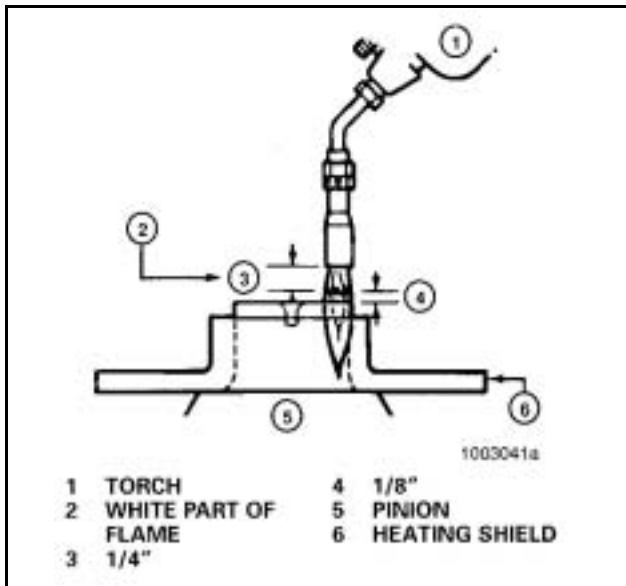

Figure 60
- c. Light and adjust the torch until the white part of the flame is approximately 1/4 inch long. Keep the white part of the flame approximately 1/8 inch from the top of the stem. **Figure 60.** Move the flame around the outer diameter of the top of the pinion stem. The green temperature indicating liquid will turn black before the blue liquid does. Heat the stem until the blue liquid turns black at a point in the middle of the window.